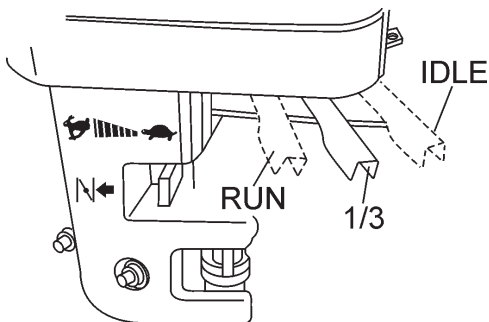

Figure 12. Throttle Lever (1/3 Start Position)
2. Move the **throttle lever** (Figure 12) away from the slow position, about 1/3 of the way toward the fast position.